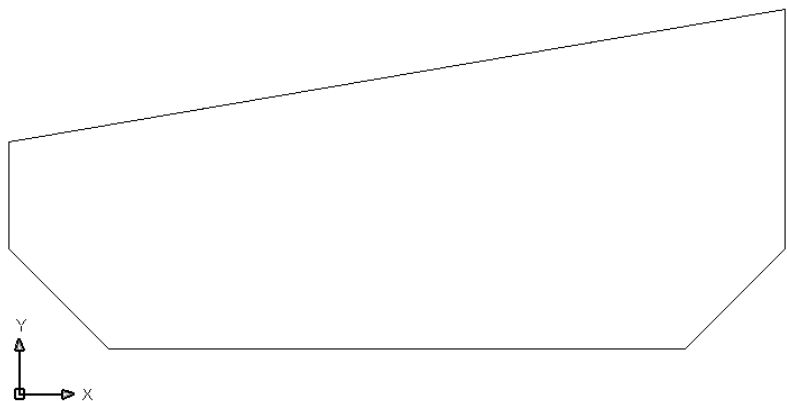

**Figure 24-48:** The completed solid.
7. Save your drawing. It should look like Figure 24-48.